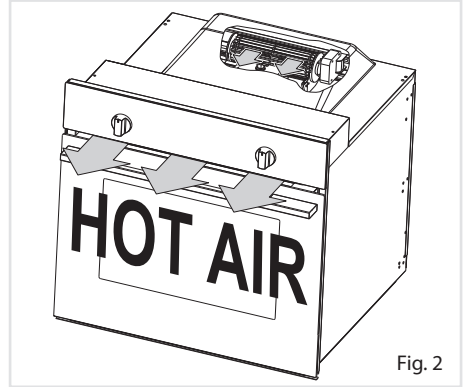

Fig. 2
- When the cooling fan motor is operating correctly there is an air flow in the top area of the appliance (fig. 2).